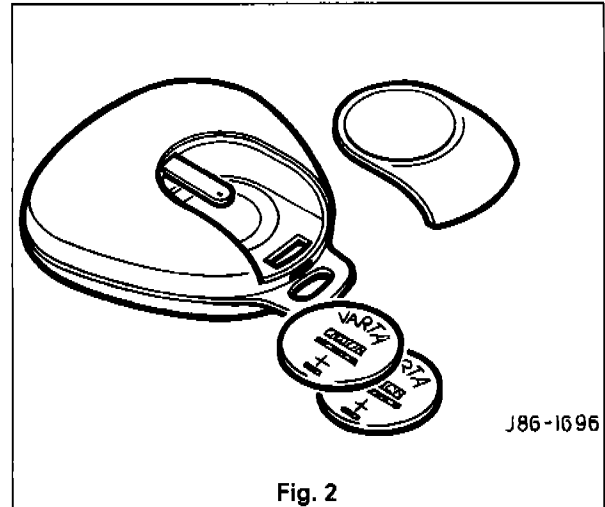

Fig. 2
- Remove the hand transmitter rear cover (1 Fig. 2).
- Remove batteries (2 Fig. 2) and discard.
- Fit two new batteries making sure the polarity is as shown in Fig 2.